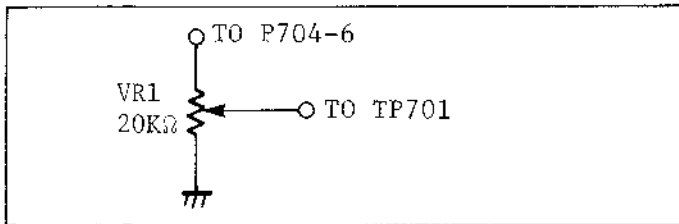

Fig. 54
3. Connect the JIG to both points P704-6 and TP701 as shown in Fig. 54 and adjust VR1 so that the Sweep output becomes 2.0Vp-p.
7. Connect the JIG to both points P704-6 and TP709 as shown in Fig. 54 and adjust VR1 so that the Sweep output becomes 1.0Vp-p.